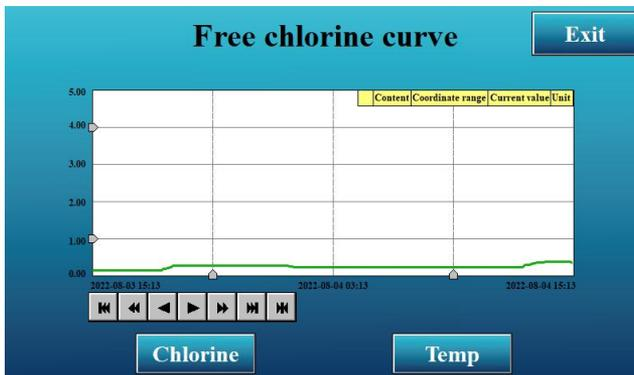
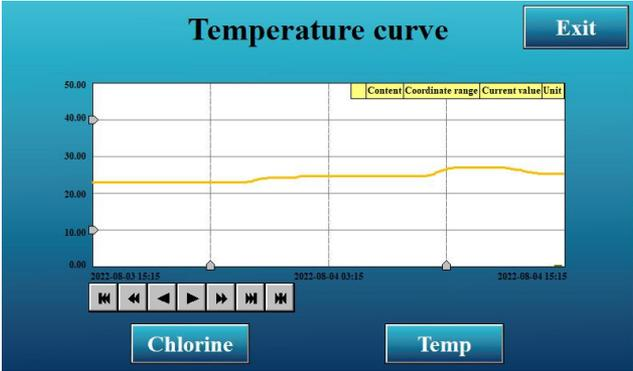

Fig.25 Free chlorine curve
Fig.26 Temperature curve
**GraphHics** : Click the "GraphHics" button on the Menu interface to enter the "GraphHics" interface. The GraphHics can be used to observe the data trend, and different types of graphHs can be selected from the two options at the bottom of the screen. As shown in Fig.25 and Fig.26.